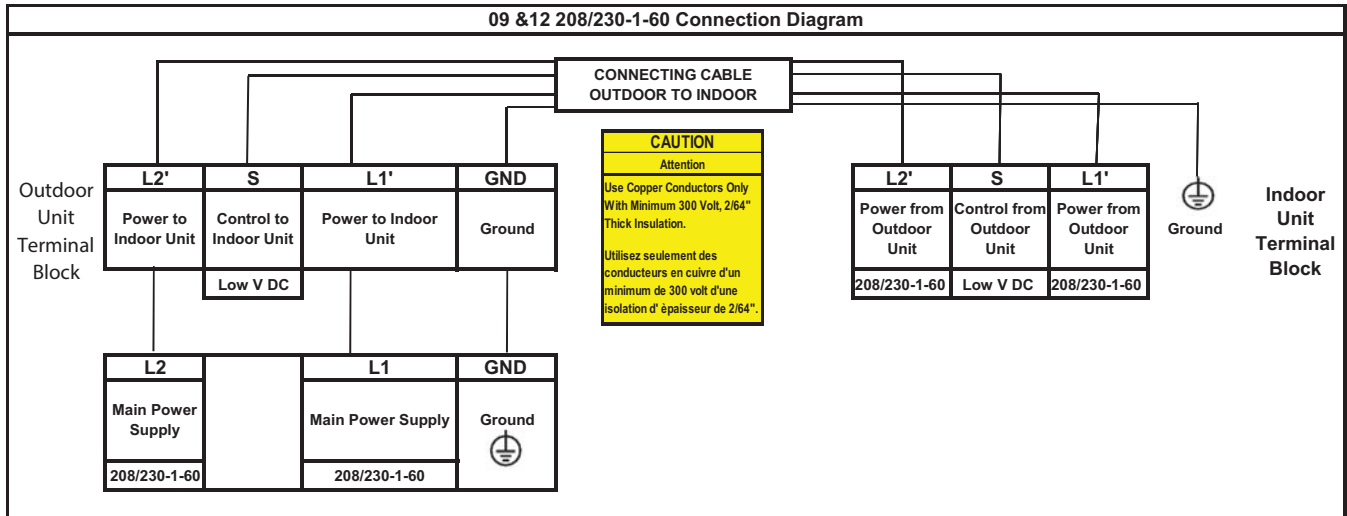

Fig. 23 - 09K & 12K Unit Wiring Diagrams
8. Connect wiring from outdoor unit per connection diagram (see Fig. 23).